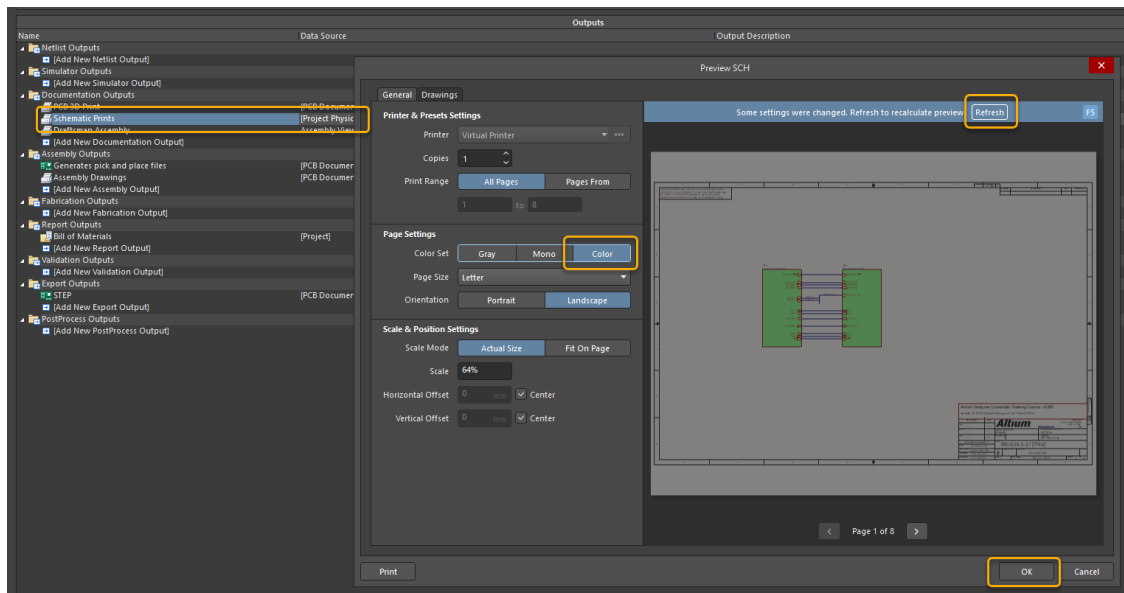

Figure 6. Schematic Prints
19. Right mouse click on the `Schematic Prints` section, and select **Configure** to see the Preview pop-up window, as shown in Figure 6.